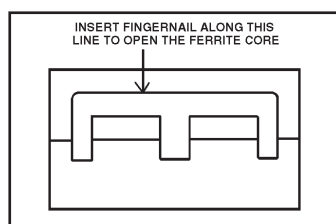

Figure 12-2. Ferrite Core
1. Insert your fingernail in the place shown in Figure 12-2 and unsnap the ferrite core from the sensor cable.